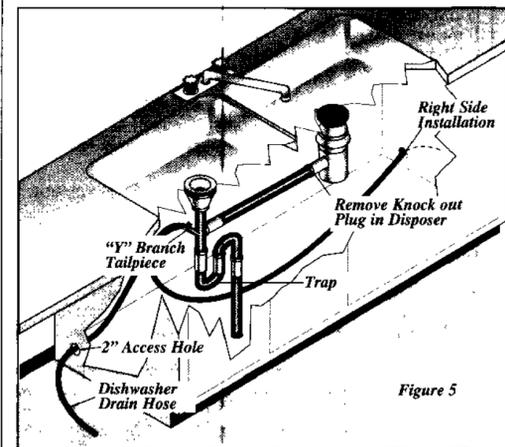

Figure 5
1. Review Figures 5 and 6 to see the different ways to connect dishwasher to drain system. Choose method that best suits your need.
2. If you connect to a sink drain, entry will need to be above trap. A "Y" branch tailpiece and connector kit, not included, will make this method easier and includes all needed fittings and instructions. See Figure 5.